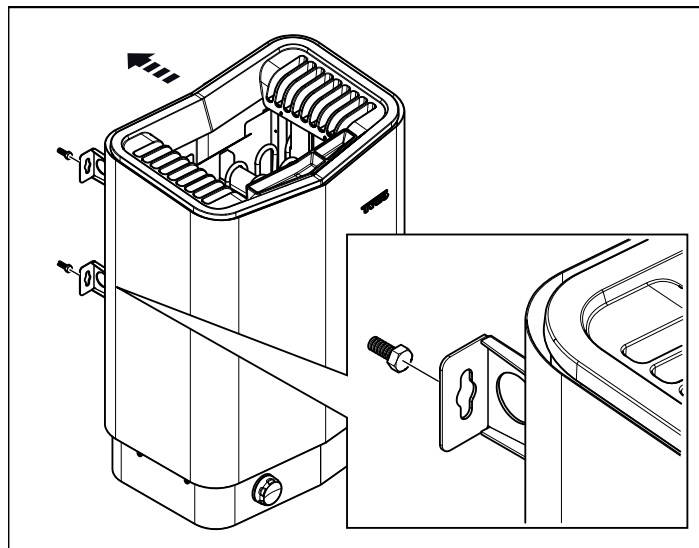

Figure 10: Hang the heater up.
- 8. Hang the heater on the screws see Figure 10, Page 7.